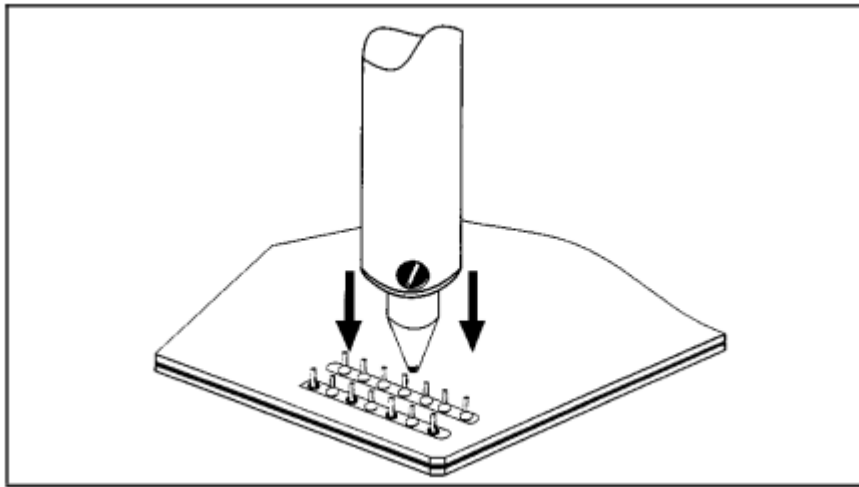

Figure 1 Position Tip
- e) Tin tip with solder. (See Figure 1.)